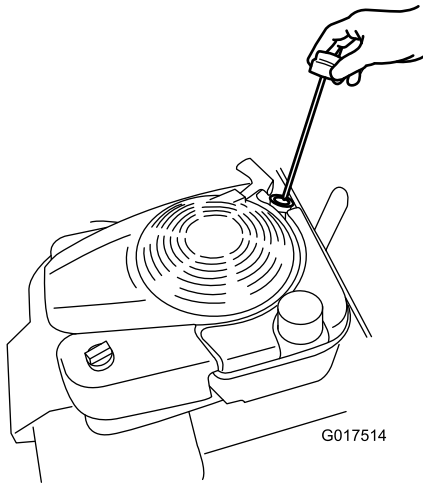

Figure 12
2. Remove the dipstick (Figure 12).
4. Insert the dipstick into the oil-fill tube and screw it in until it stops. (Figure 12).